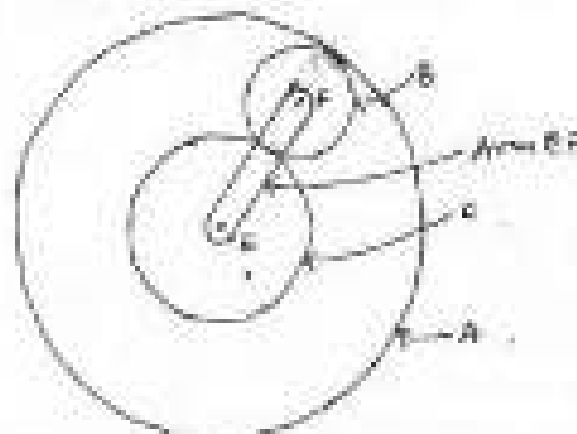

fig. 2.b.
- b) An epicyclic gear train is shown in fig. 2.b. [10]